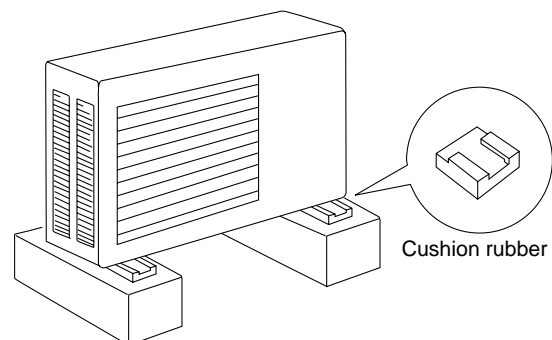

Fig. 5b
- Install cushion rubber under unit's feet to reduce vibration and noise. (Fig. 5b)